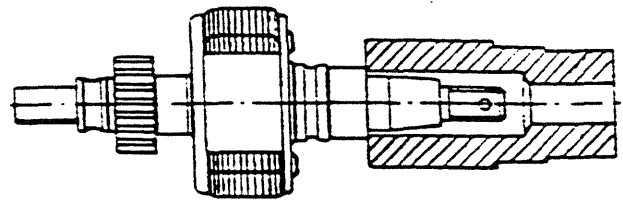

Figure 905. Installing Sleeve Bearing
- I. Position sleeve bearing (69) on drive end of rotor shaft and press into place using the 11-6924-1 Pressing Tool as shown. A small amount of engine oil on shaft will help prevent damage to sleeve bearing. See Figure 905.